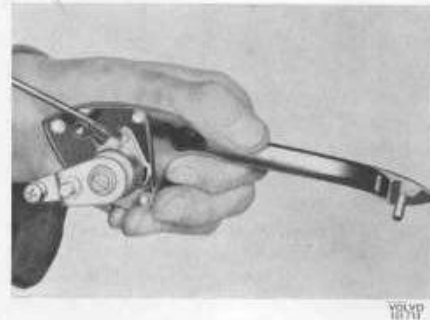

Fig. 15. Dismantling door handle.
1. Remove the screw for the sleeve as shown in Fig. 15 and then the screw for the control lever, after which the pressure spring can be taken off. On earlier cars there is a circlip instead of a screw.